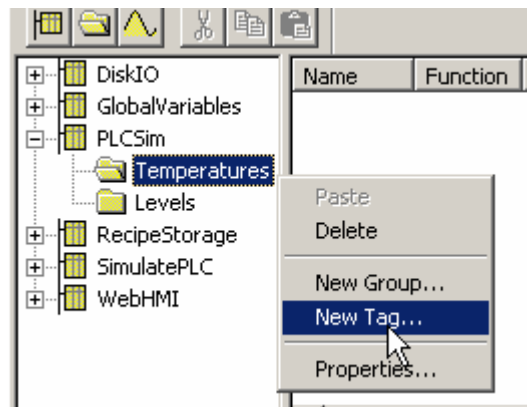

Figure 4.11. Adding a New Tag to the "Temperatures" Group
1. Right-click the **Temperatures** group and select **New Tag** from the pop-up menu, as shown in **Figure 4.11**.